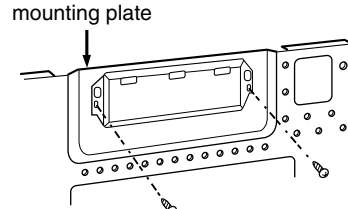

Figure 22
3. Securely tape or tack the upper cabinet template to the upper cabinet. See Figure 22.